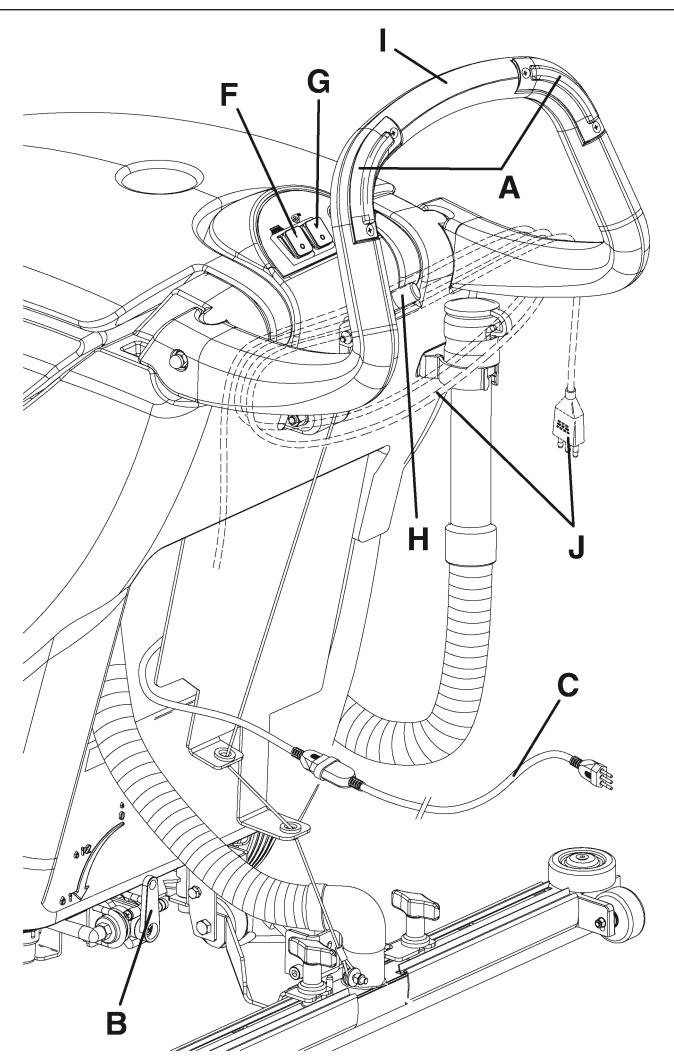

Figure 10
- While keeping both hands on the handlebar (I, Fig. 10), move the machine and start scrubbing/drying the floor.
When the machine is stopped, stop the brush/pad by releasing the switches (A, Fig. 10).*
Before lifting the brush/pad, stop its rotation by releasing the switches (A, Fig. 10).
- If necessary, adjust the solution flow sent to the brush/pad by turning the lever (B, Fig. 10).
- Turn the brush/pad rotation switch and the water vacuuming switch (F and G, Fig. 10) to the "0" position.
- Disconnect the power supply cable plug (C, Fig. 10) from the electrical mains. Roll up the power supply cable on the handlebar into position (J).
- Lift the squeegee by pushing the lever (H, Fig. 10) completely upwards.